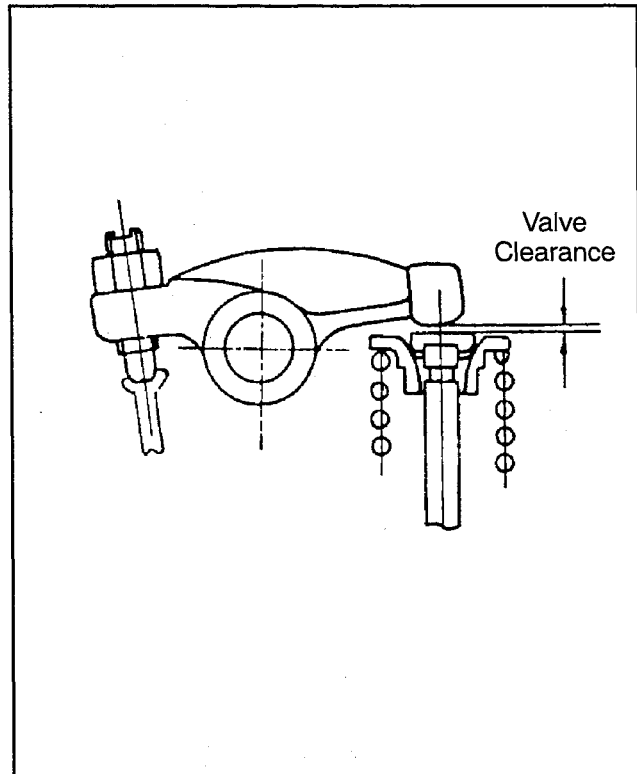

Figure 3-11. Valve Adjustment.
3. Insert feeler gauge between rocker arm and exhaust valve. If necessary, loosen locknut and move adjusting screw so that very slight drag is felt on the feeler gauge as it is withdrawn. Tighten locknut on adjusting screw. Recheck clearance. See Figure 3-11. Repeat step for intake valve.